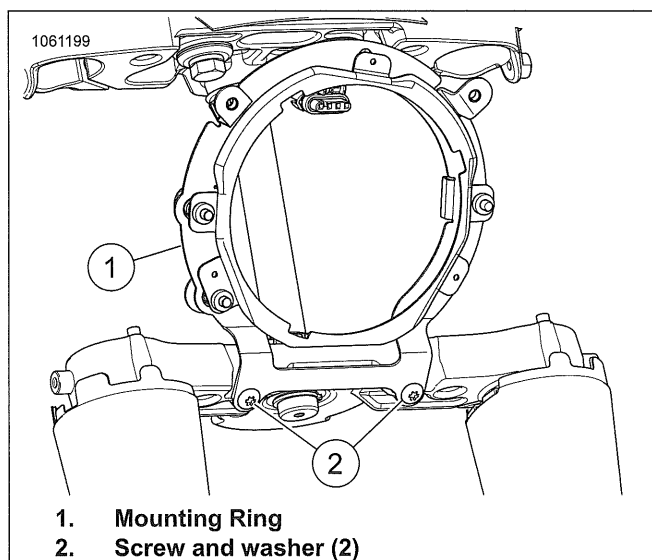

Figure 7-47. Headlamp Mounting Ring
3. See Figure 7-47. Remove screw and washer (2).
4. Remove mounting ring (1).
1. See Figure 7-47. Install mounting ring (1).
2. Install screw and washer (2). Tighten.